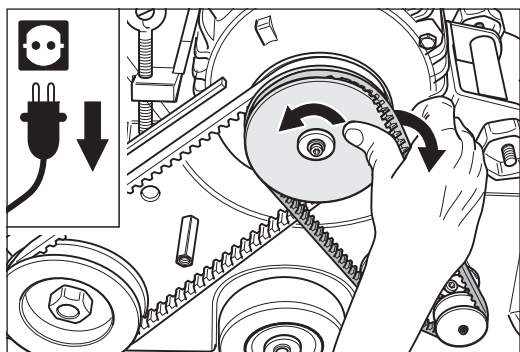

Fig. 26 Remove the fan V-belt.
- 7 Turn the motor pulley and allow the fan V-belt to run off the motor pulley (Fig. 26).